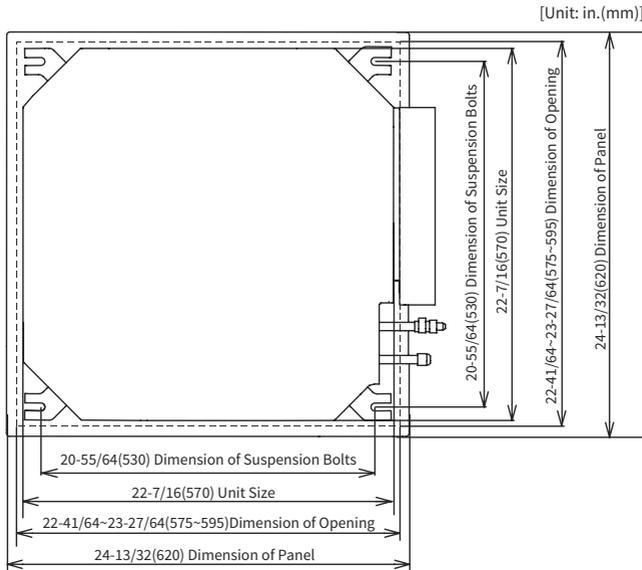

Fig. 3.3 Opening of False Ceiling and Suspension Bolts
2. Cut out the area for the indoor unit in the false ceiling and install suspension bolts, as shown in Fig. 3.3.